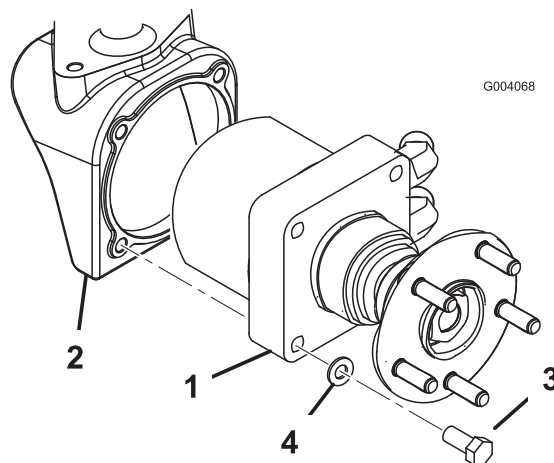

Figure 3
6. Mount the respective wheel motor assembly to each wheel housing with 4 bolts (1/2 x 2-1/4 inch) and lock washers (1/2 inch) (Figure 3). Torque the bolts to 70-80 ft-lb.